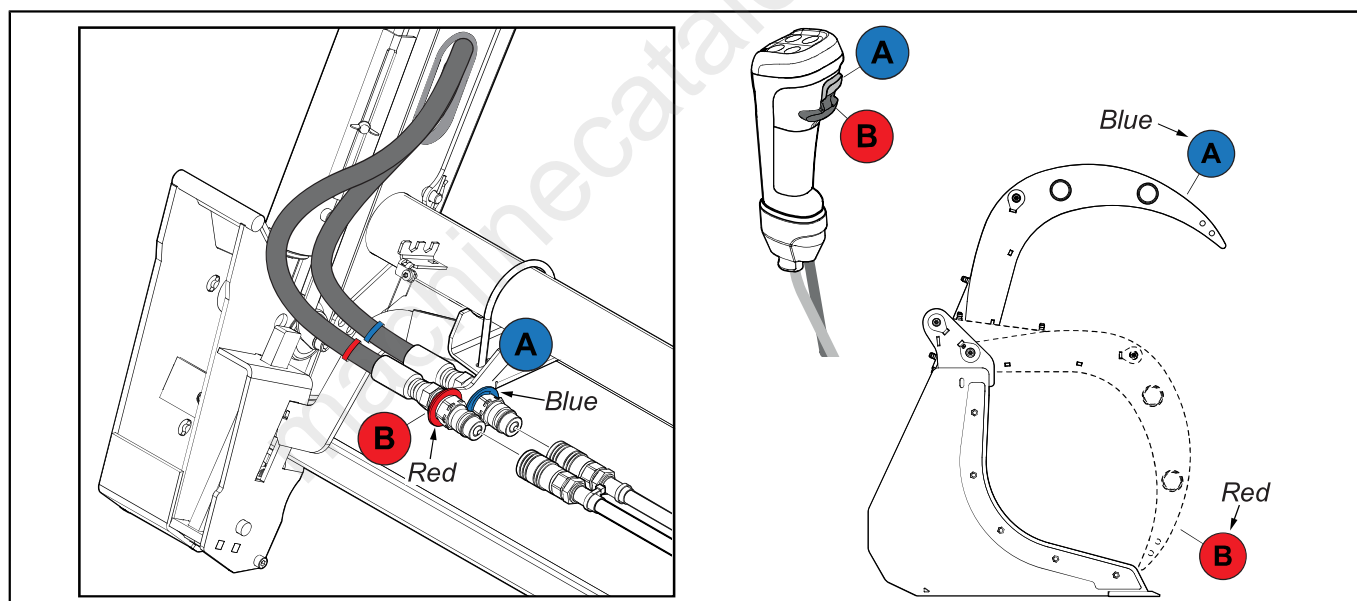

Fig. 88 Typical connection and disconnection of a hydraulic implement function
4. Connect the hose(s) from the implement that close the implement to the coupling/port labelled RED (B). See Fig. 88.